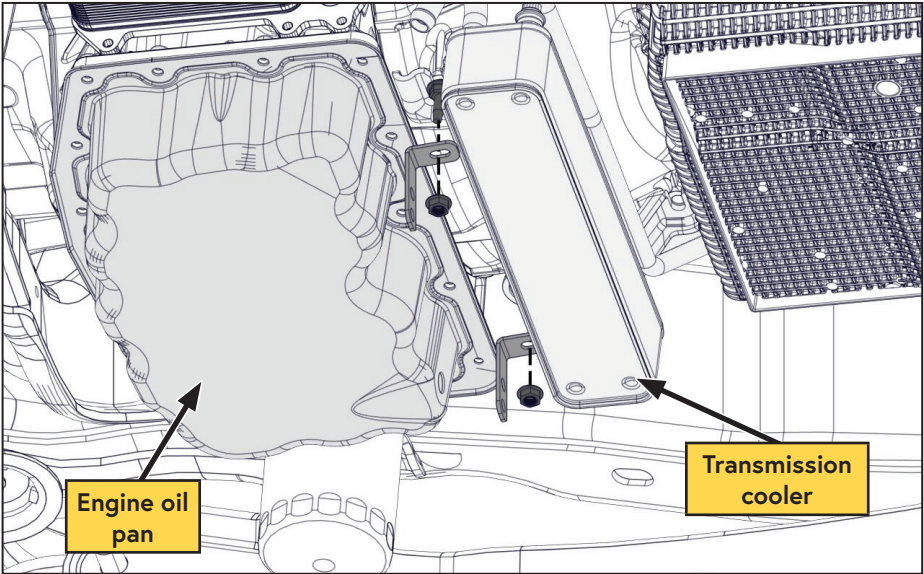

Figure 64 — Routing the hoses
- ☐ Install the 90° brackets onto the transmission cooler studs (Figure 64).